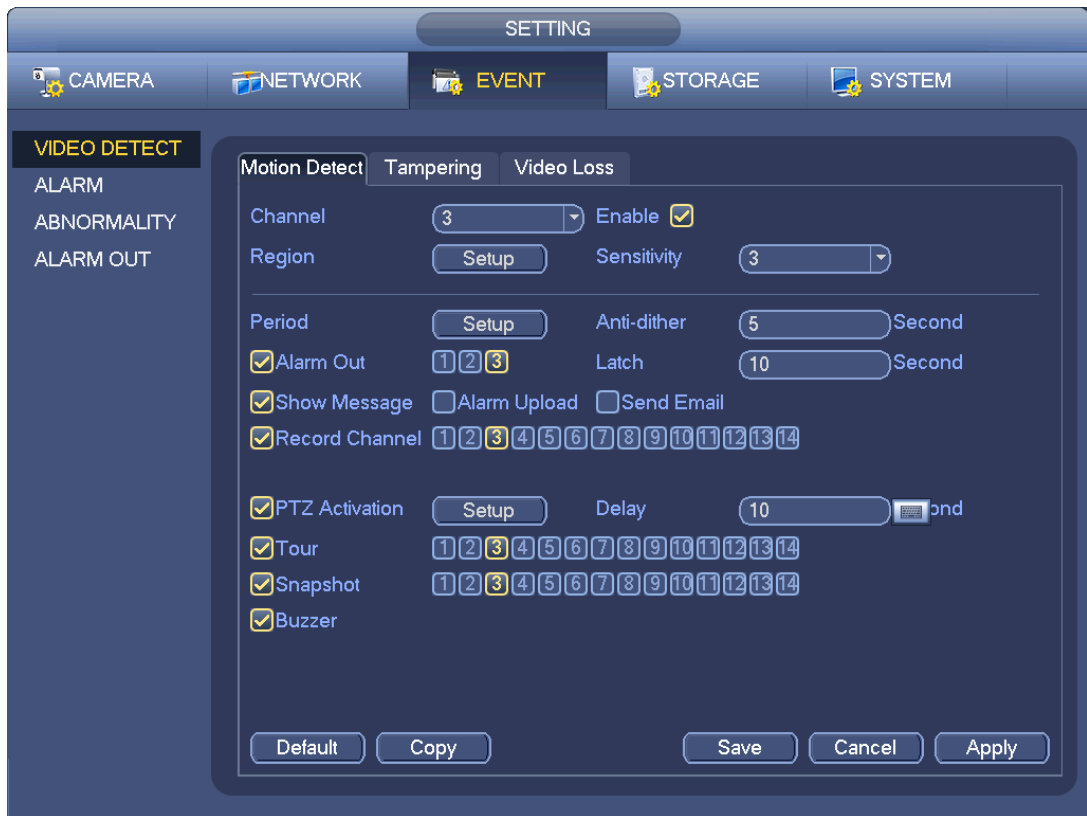

Figure 4-66
- a) From Main menu->Setting->Event->Detect, you can go to the following interface. See Figure 4-66.